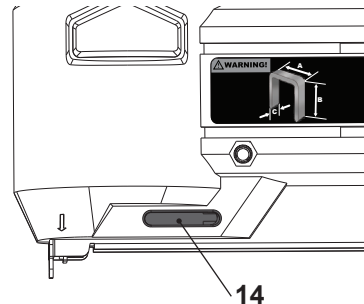

Fig. 7
The user can check the filling status of the staples from either of the two check windows (14) (Fig. 7).